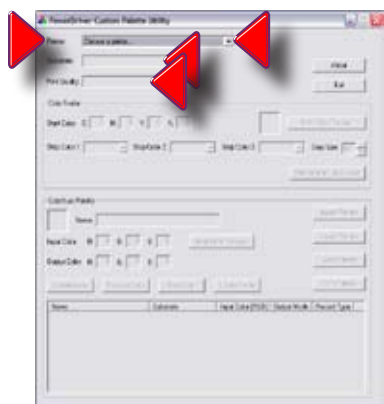

Figure 1
- At the bottom of the window, click the **Custom Palette Button**; this will open the **“Custom Palette Utility” Window**. (**Figure 1**)